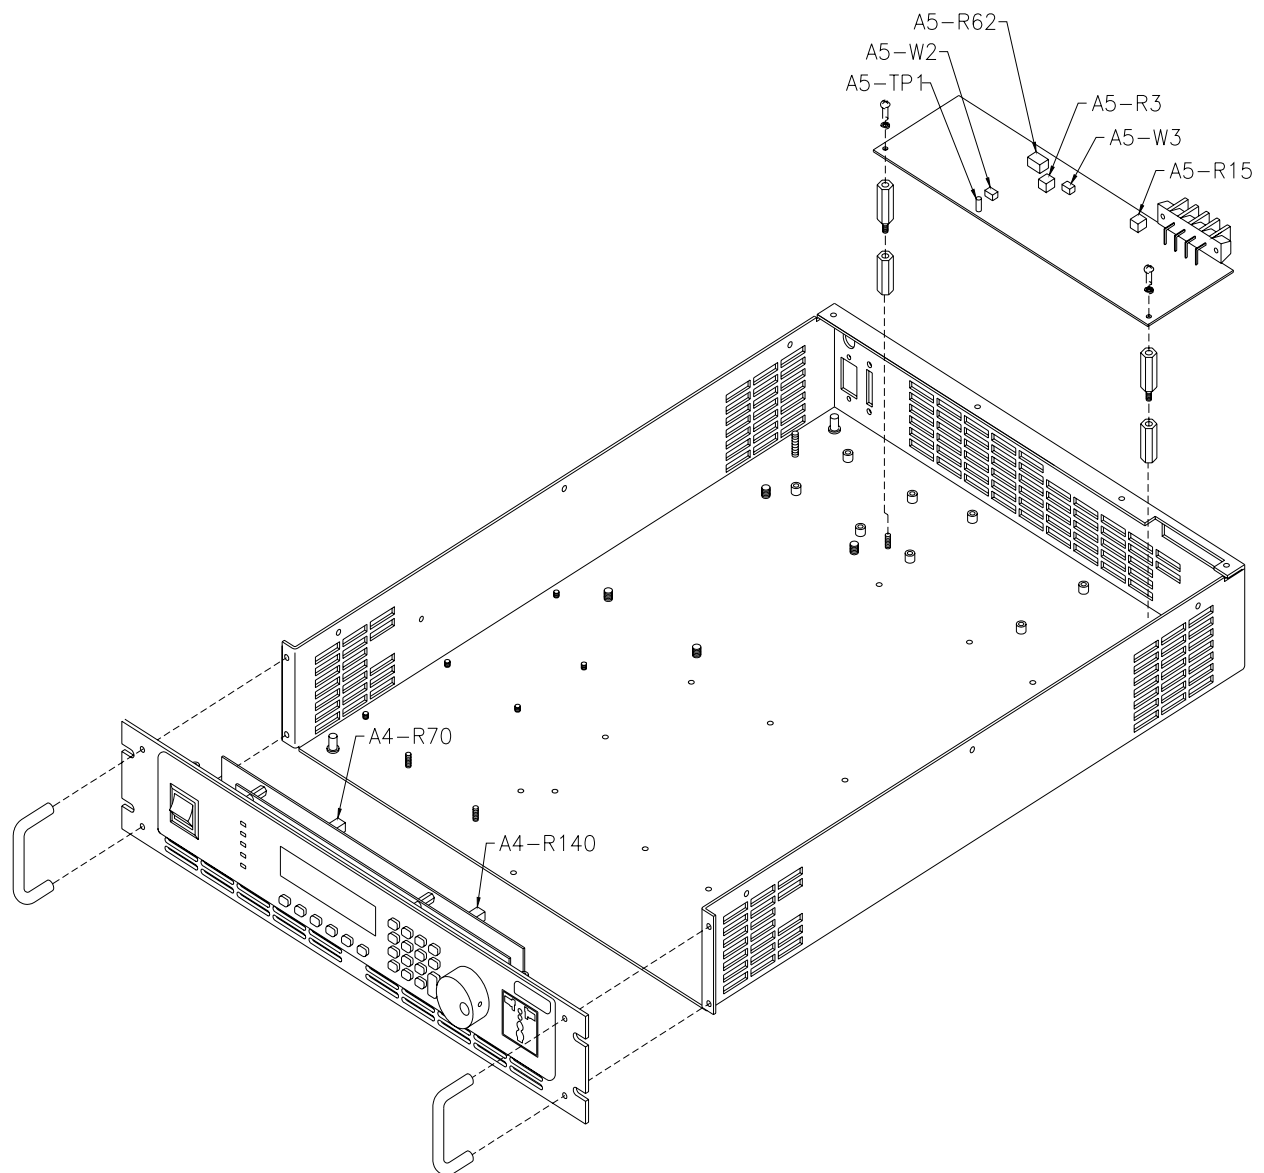

Figure 6-1: Internal adjustment locations.
4. Close the power source output relay and adjust R70 on the Controller (A4) for zero  $\pm 5$  mV. See Figure 6-1 for pot location on the controller board.
3. Program 10.0 volts AC. Adjust R140 on the controller (A4) for an output of  $10 \pm 0.2$  VAC. See Figure 6-1 for pot location on the controller board.